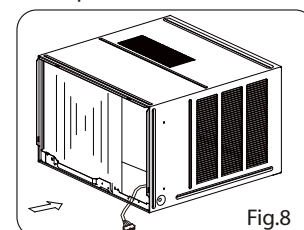

Fig.8
1. Slide the unit into the cabinet until it is firmly against the rear of the cabinet. Care is required to ensure the foam sealing strips on the cabinet remain in position (See Fig.8).